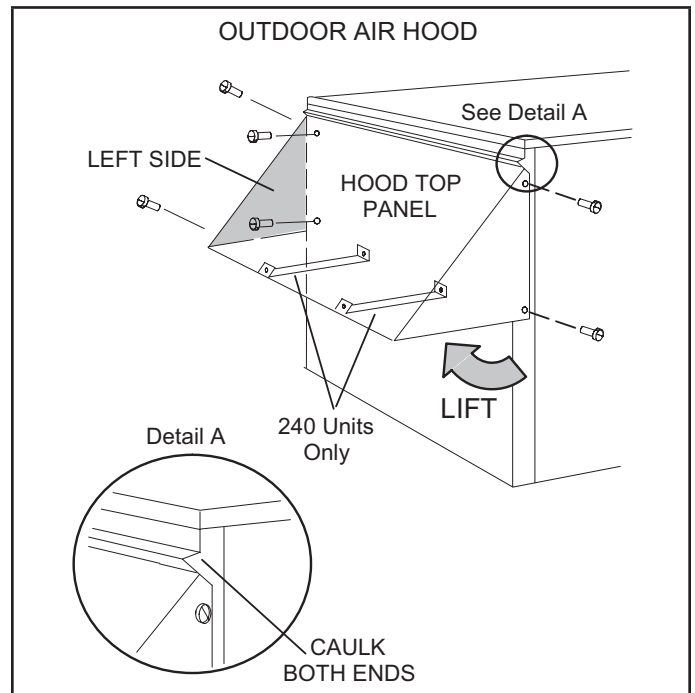
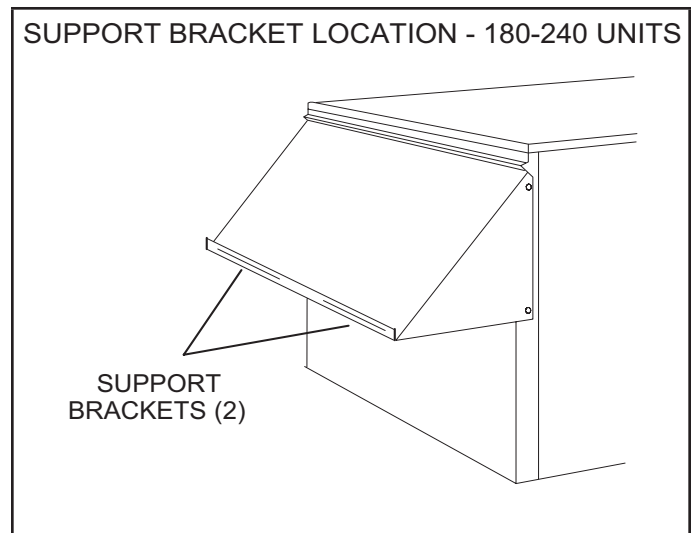

FIGURE 12
FIGURE 13
- 3 - Lift (rotate) the bottom of the hood top panel and attach left side to hood top panel. See FIGURE 12.
- 6 - 180-240 Units Only - Remove two support brackets from hood top panel flange. See FIGURE 13. Install as shown in FIGURE 12.